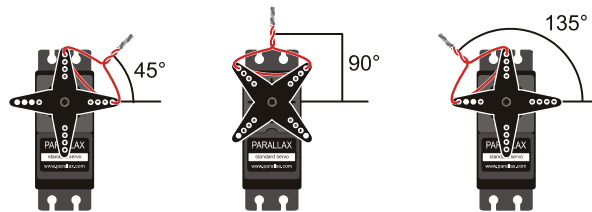

Figure 4-22
The `ThreeServoPositions.bs2` example program makes the servo hold the three different positions shown in Figure 4-22, each for about 3 seconds.
- ✓ Verify that the servo holds each position in the Figure 4-22 sequence for about three seconds.